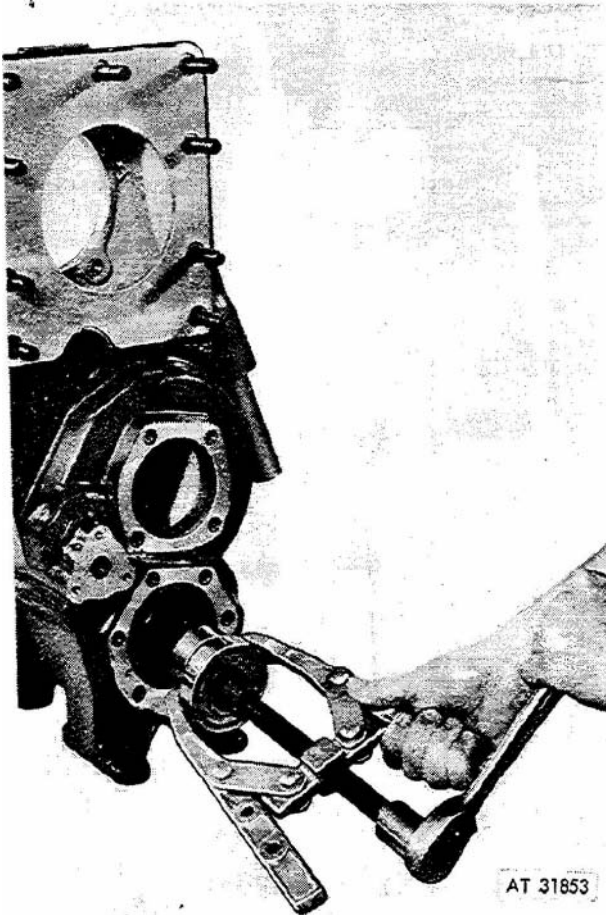

Figure 3-57. Pulling input shaft bearing from input shaft.
(26) Using a suitable puller, remove bearing (18) and oil pump cam (19) from input shaft (21) as shown in figures 3-57 and 3-58. Remove woodruff key (20, fig 3-47).